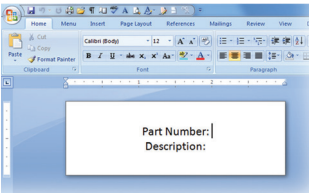

FIGURE 7 Word document ready to receive data from an Excel spreadsheet
- E. Now **open the Word template you want to import your Excel data into**. In Figure 7 the static text “Part Number:” and “Description:” are already typed in. Now place your cursor where you want to insert your data.